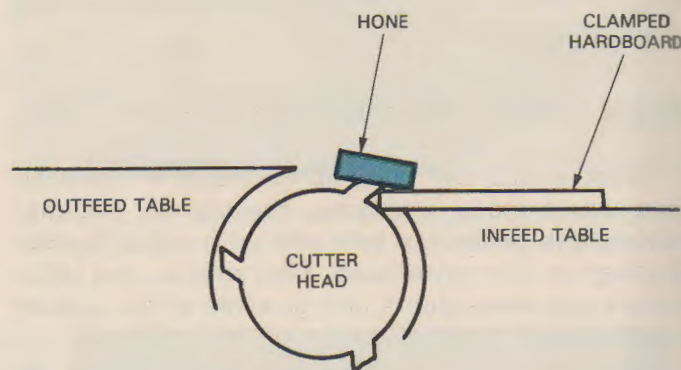

Fig. 23-21. Honing the backs of the jointer knives.
Hand-honing cutter knives is the easiest of sharpening methods. The process, as shown in Fig. 23-21 and 23-22, is as follows:
6. Wedge a thin piece of hardboard or plastic laminate between the cutterhead and blade, Fig. 23-21. This holds the cutterhead and further protects the table from damage.